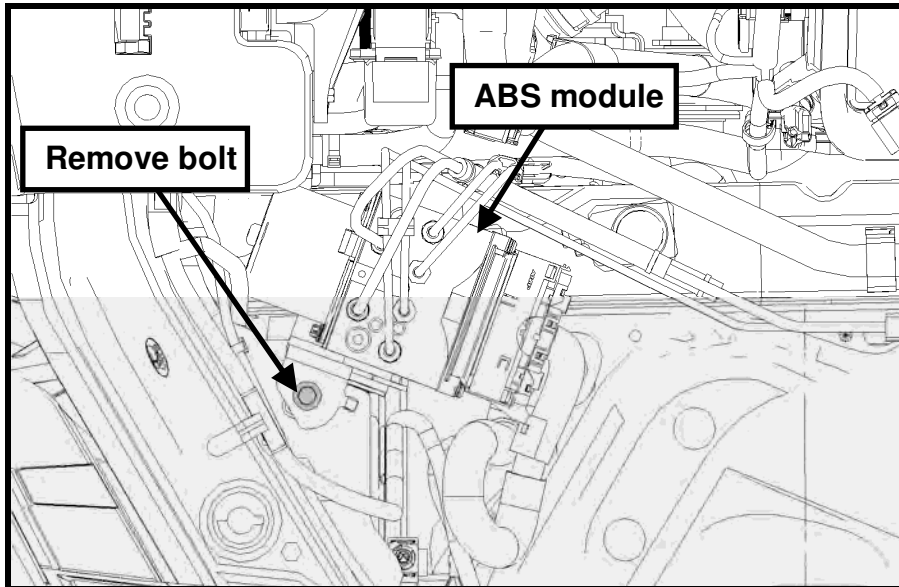

Fig. 9
STEP 6: Locate the ABS module bracket and remove the bolt shown below (Fig. 9).